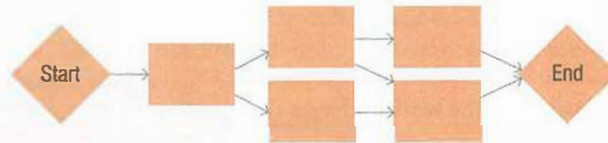

FIGURE 8.2 Network diagram
Once work package activities are defined, the next process involves sequencing them in the order in which the work should be performed. The result is a project schedule network diagram. A simple network diagram is illustrated in figure 8.2. There is practice work designed to help you learn how to draw and interpret network diagrams later in this chapter.
**Example** Using the simple example in figure 8.2, here is how to build a network diagram.